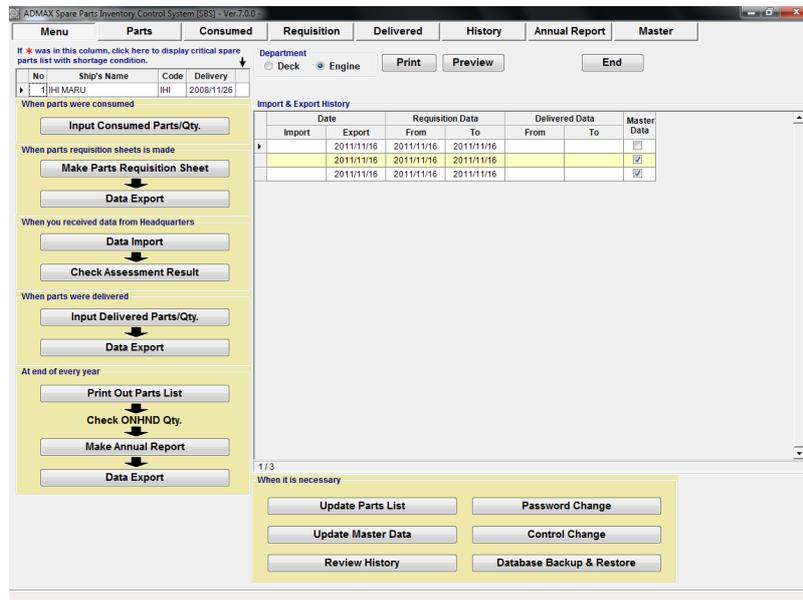

Fig 16.1 Menu
1. Select [Database Backup & Restore] button on the "Menu Screen"(Fig.16-1).